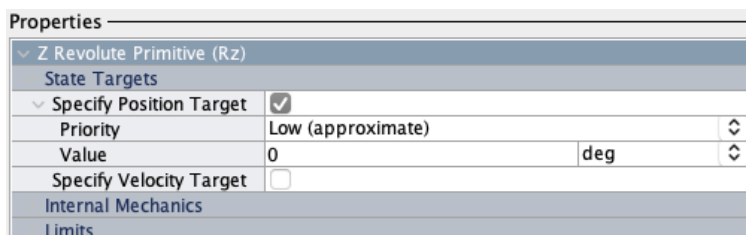

Figure 18: Revolute Joint Position Target
- Now we will fix the revolute joints and the model environment. In the “multiBodyRobot” block diagram, open the “Revolute” block. Expand the “State Targets” then “Specify Position Target” tabs and change the “Value” field to 0 deg. This change should look as it does in figure 18.